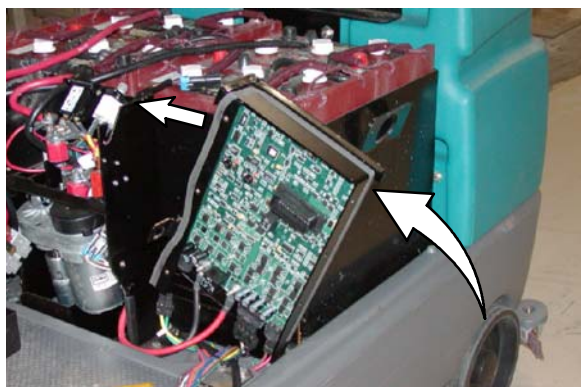

Fig. 3
10. Install the new circuit board (1)/control panel weldment (10) onto the machine. Position the circuit board/control panel weldment as shown (Fig. 3).
13. Slide the circuit board (1)/control panel weldment (10) down into position (Fig. 3).